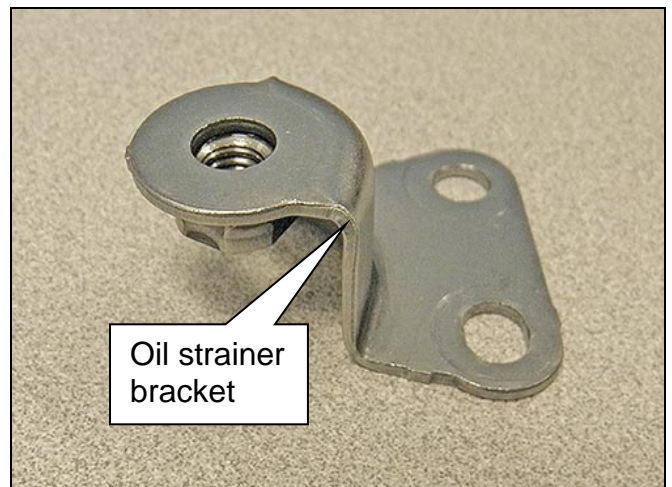

Figure 1
**NOTE:** If an oil strainer bracket was removed, discard it. An oil strainer bracket (Figure 1) will not be used with the new oil strainer.